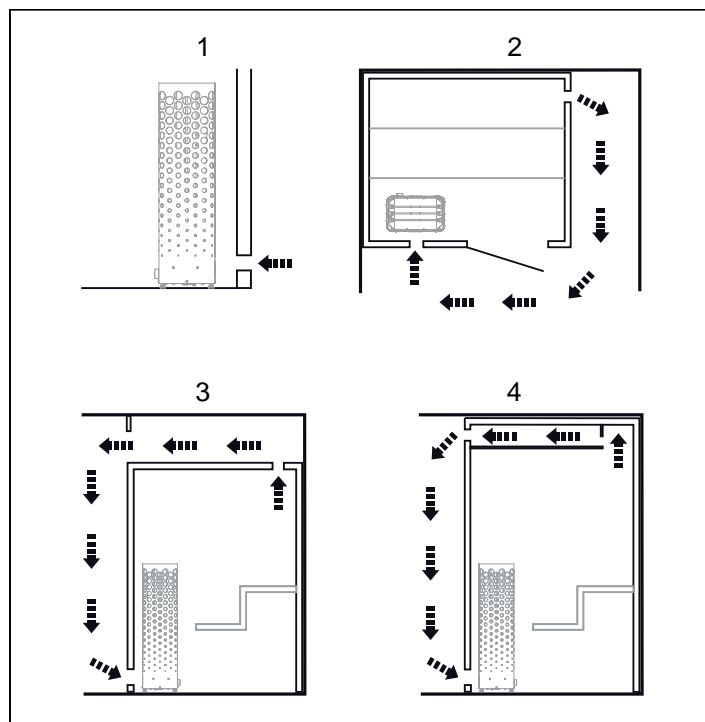

Figure 6: Positioning the air intake and exhaust vents
Position the air intake vent straight through the wall behind the center line of the heater (see Figure 6).
- at the maximum possible distance from the air intake vent, e.g. diagonally (see Figure 6).
- high on the wall or in the ceiling (see Figure 6).